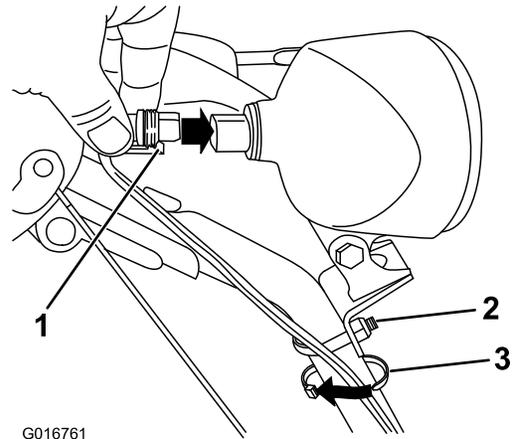

Figure 17
1. Insert the wire connector on the loose end of the wire straight into the back of the headlight until it is securely in place (Figure 17).
**Note:** Ensure that the plastic clip on the wire connector is on the bottom (Figure 17).
2. Secure a cable tie (from the loose parts bag) around the wire and the handle about 2.5 cm (1 inch) below the U-bolt (Figure 17).